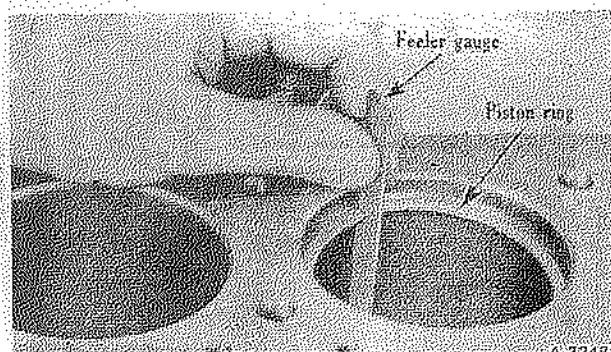

Fig. 41 - Checking ring gap
2. Place piston and connecting rod in vise. Test each piston ring for proper gap by placing in cylinder and measuring gap with feeler gauge. Gap should be ".015" to ".031" (Fig. 41).